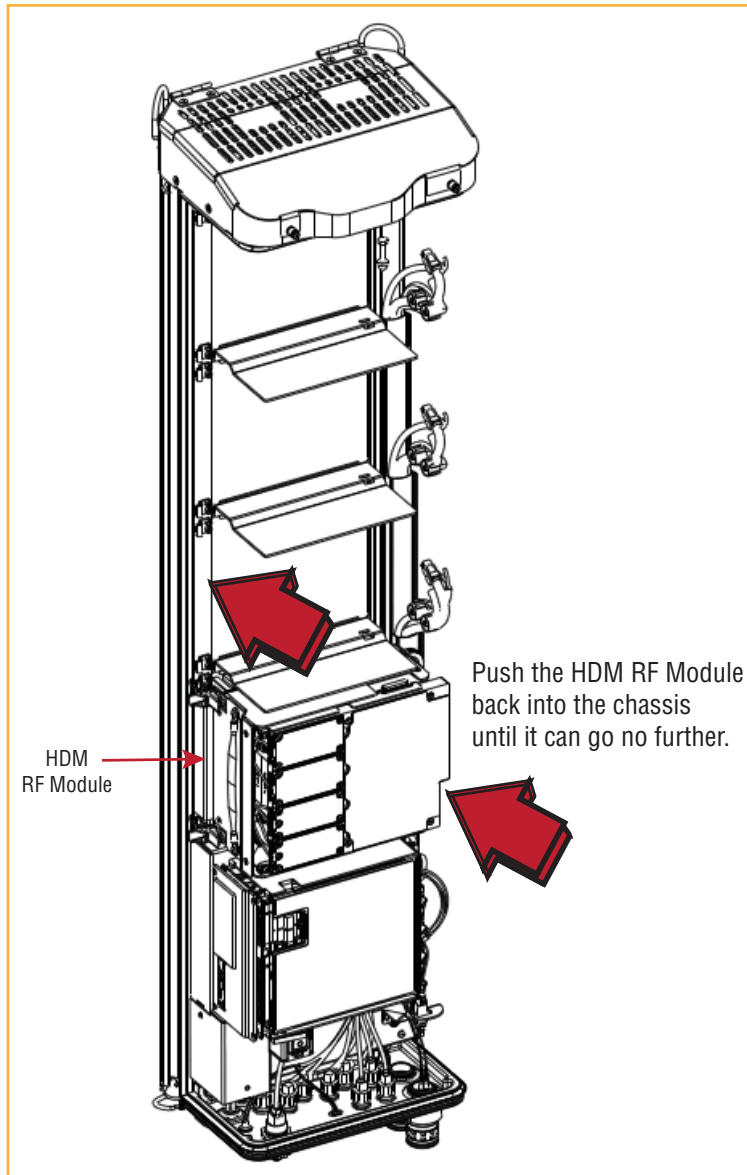

Figure 16. Seating an HDM RF Module
- For HDM RF Modules, see Figure 16 on page 31.